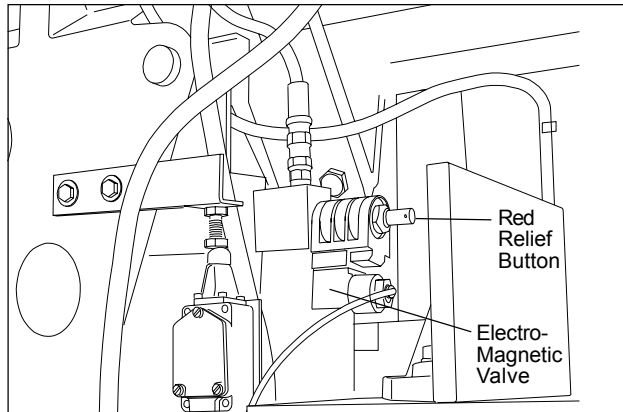

Figure 6: Lowering head with power off
5. A red release button on the electro-magnetic valve provides a means to lower the saw head when power to the machine has been disconnected (see figure 6).
- To lower the saw head with power off, pull and turn the red knob (manual override) on the electro-magnetic valve (see figure 6).